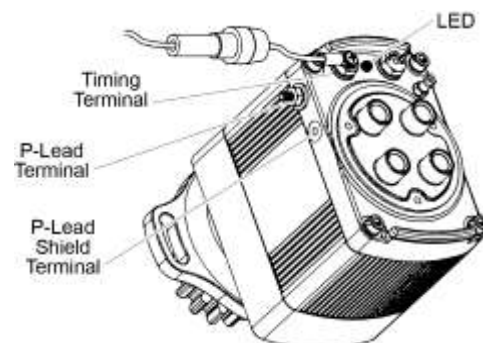

Figure 7
- (a) Connect a temporary source of positive (+) 8.5 – 30VDC power to the terminal labelled TIMING (Figure 7) on the EIS using the provided screw. Finger tighten the screw.
- (b) Ground the EIS to the negative (-) lead of the temporary power source. Do not attempt to ground through painted or anodized surfaces – ground through the machined mount face, p-lead shield terminal (Figure 7) or case bolt heads.
- (c) The EIS LED (Figure 7) should illuminate green. If not, wiggle the drive gear, re-ground the EIS and ensure the EIS p-lead terminal (Figure 7) is not grounded.